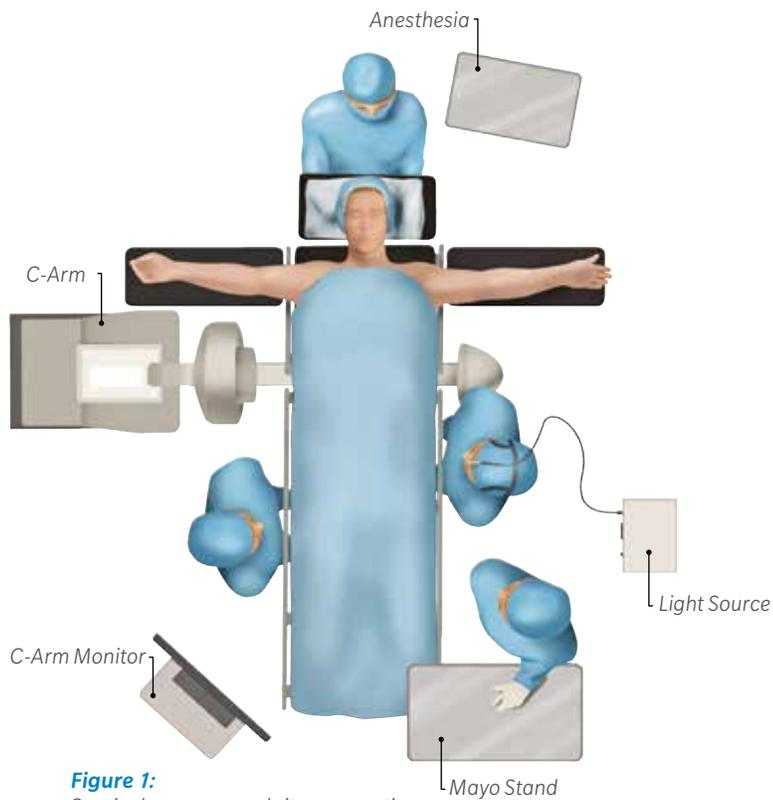

Figure 1:
- Position and drape the patient in the usual fashion (Figure 1).